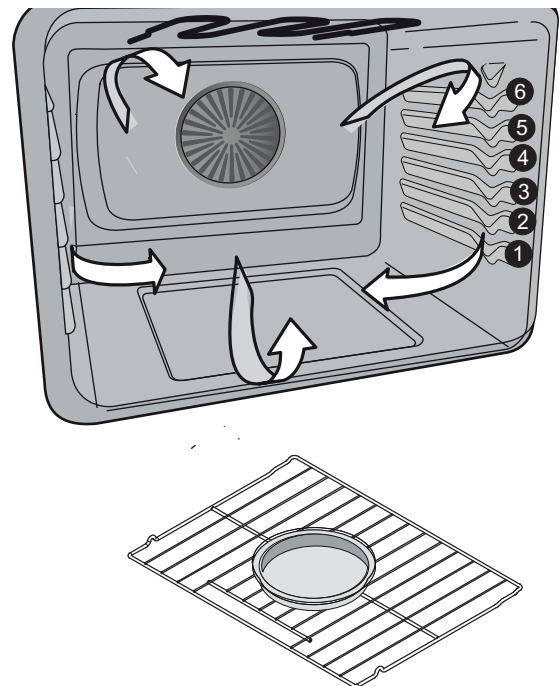

Figure 9: Oven rack positions; single rack baking
- Always place food in center of the oven on rack position 2 (Glide rack) or 3 (Flat rack) in the upper oven, or 3 (Flat rack) in the lower oven. (Figure 9).
- Place the food as shown in Figure 9.